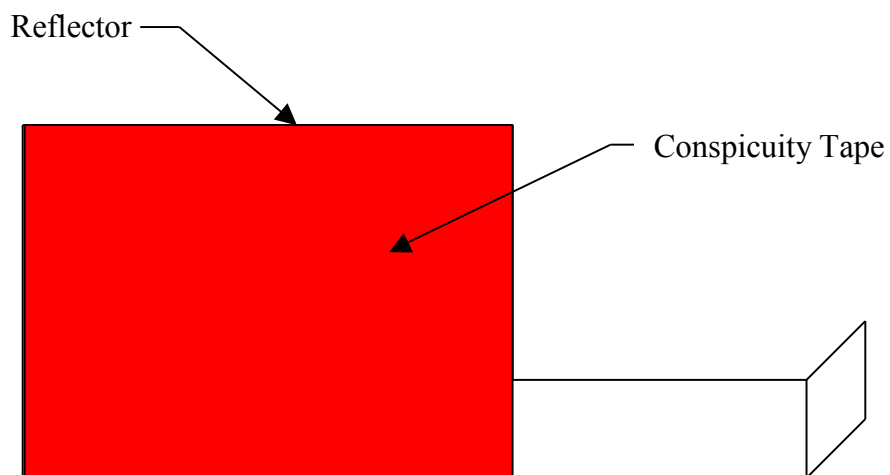

Fig. 1-3
**1b. Attach reflective conspicuity tape to reflector plate.** Peel off adhesive backing from the conspicuity tape and affix to side of reflector plate facing the Autocloser unit. Tape should be aligned to cover most of the rectangular portion of reflector plate (**Fig. 1-3**).